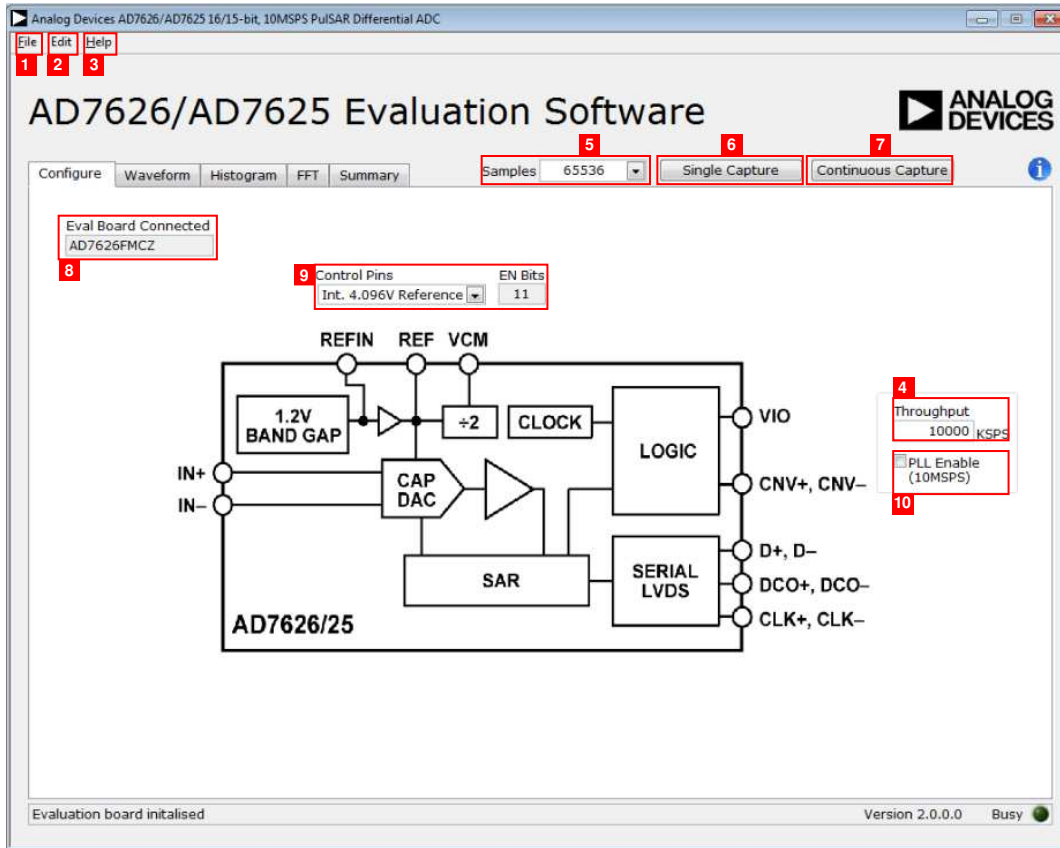

Figure 19. Evaluation Software Window
1. From the **Start** menu, click **Programs > Analog Devices > AD7626_25 Evaluation Software**. The main window of the software then displays (see Figure 19).
This section describes the full software operation and all the windows that appear. When the software is launched, the main software window opens, and the software searches for hardware connected to the PC. The user evaluation software launches as shown in Figure 19. The labels listed in this section correspond to the numbered labels in Figure 19.
The **File** menu, Label 1 in Figure 19, has the following options:
The **Edit** menu, Label 2 in Figure 19, provides the option to **Initialize to Default Values**, which resets the software to its initial state.
The **Help** menu, Label 3 in Figure 19, offers help from the
The **Throughput** field, Label 4 in Figure 19, controls the throughput. The default throughput (sampling frequency) is 10,000 kSPS for the AD7626, and 6000 kSPS for the AD7625. The user can adjust the sampling frequency; however, there are limitations around the sample frequency related to the SCLK frequency applied. The sample frequency must be at least 500 kSPS. If the user enters a value exceeding the ability of the ADC (the AD7625/AD7626 have a maximum sample frequency of 10M/6M), the software indicates this, and the user must revert to the maximum sample frequency.
From the **Samples** drop-down menu, Label 5 in Figure 19, select the number of samples to analyze when running the software; this number is limited to 1,048,576 samples.
Clicking **Single Capture**, Label 6 in Figure 19, performs a single capture. Clicking **Continuous Capture**, Label 7 in Figure 19, performs a continuous capture from the ADC.
The **Eval Board Connected** indicator, Label 8 in Figure 19, shows that the evaluation board is connected. In Figure 19, the connected evaluation board is the EVAL-AD7626FMCZ.
The various options for using the external reference are controlled by the **Control Pins** drop-down menu, Label 9 in Figure 19. The default value is set to 4.096 V (internal reference). The other options are external reference 4.096 V, external 1.2 V, and power down. It is recommended to use an on-board AD8031 device as an external reference buffer.
The **PLL Enable** check box, Label 10 in Figure 19, is used when the CNV signal is coming from the AD9513. The positions of JP1 and JP2 must also be changed to A connected to center.